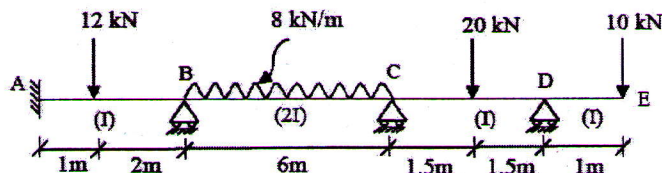

Fig.2
| | b) Analyse the continuous beam shown in fig.2 by slope deflection method and draw the BMD. | (10) |